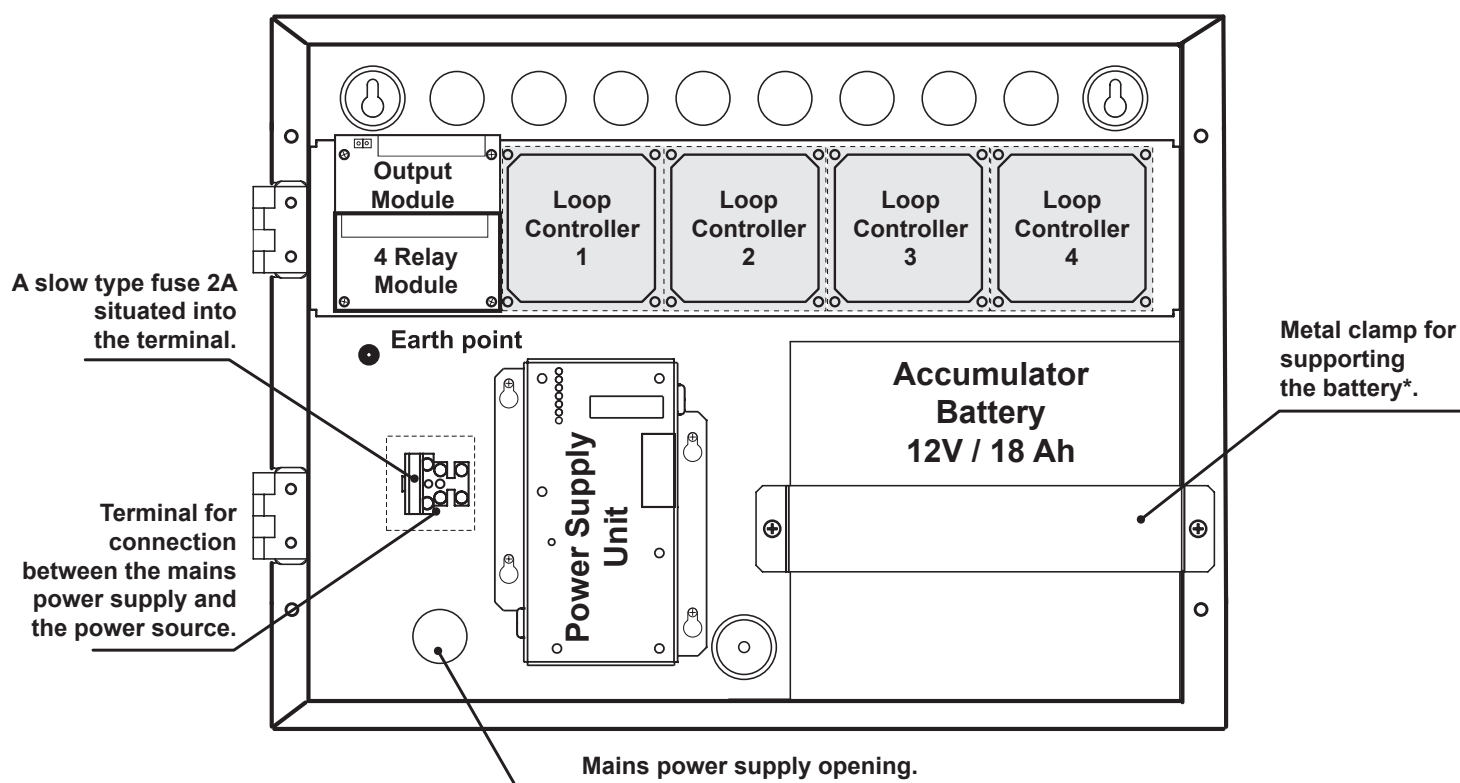

Figure 10. Configuration of the basic modules in IRIS P and IRIS M (Model: PRO) panels.
- Position the accumulator battery in an upright position and fix the metal clamp - Figure 10.